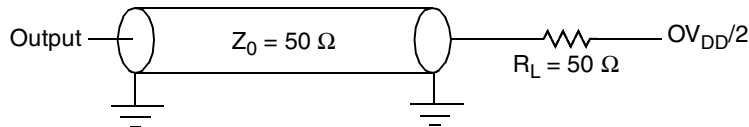

Figure 22. AC Test Load for the JTAG Interface
- All outputs are measured from the midpoint voltage of the falling/rising edge of t_{TCLK} to the midpoint of the signal in question. The output timings are measured at the pins. All output timings assume a purely resistive 50 Ω load (see Figure 22). Time-of-flight delays must be added for trace lengths, vias, and connectors in the system.
- The symbols for timing specifications follow the pattern of $t_{(first\ two\ letters\ of\ functional\ block)(signal)(state)(reference)(state)}$ for inputs and $t_{(first\ two\ letters\ of\ functional\ block)(reference)(state)(signal)(state)}$ for outputs. For example, t_{JTDVXH} symbolizes JTAG device timing (JT) with respect to the time data input signals (D) reaching the valid state (V) relative to the t_{JTG} clock reference (K) going to the high (H) state or setup time. Also, t_{JTDVXH} symbolizes JTAG timing (JT) with respect to the time data input signals (D) went invalid (X) relative to the t_{JTG} clock reference (K) going to the high (H) state. In general, the clock reference symbol is based on three letters representing the clock of a particular function. For rise and fall times, the latter convention is used with the appropriate letter: R (rise) or F (fall).
Figure 22 provides the AC test load for TDO and the boundary-scan outputs of the MPC8343E.